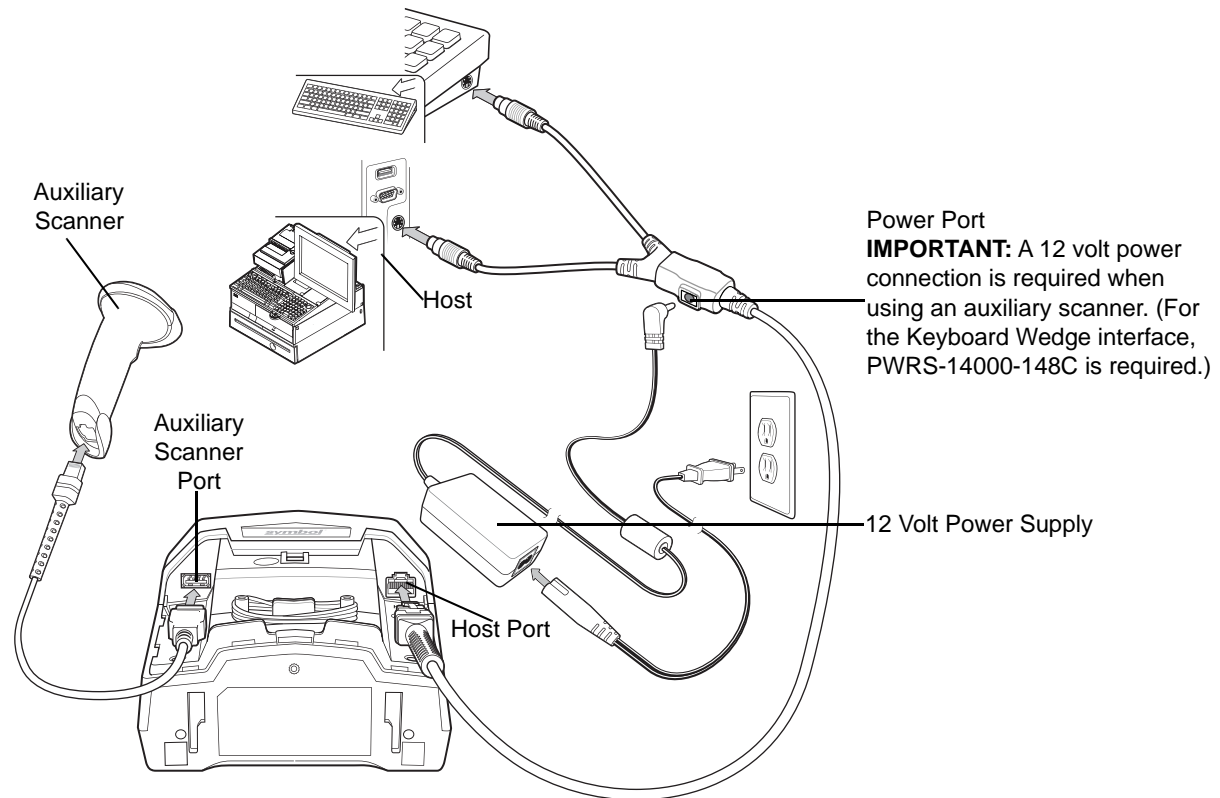

Figure 10-2 Keyboard Wedge Connection - With Auxiliary Scanner/Power Supplied Externally
- The DS7708 connects directly to the host computer and keyboard using the keyboard wedge Y-cable, and an auxiliary scanner connects to the DS7708. A 12 volt power connection is required when using an auxiliary scanner (see Figure 10-2).
- b. Connect a 12 volt external power supply as shown in Figure 10-2.